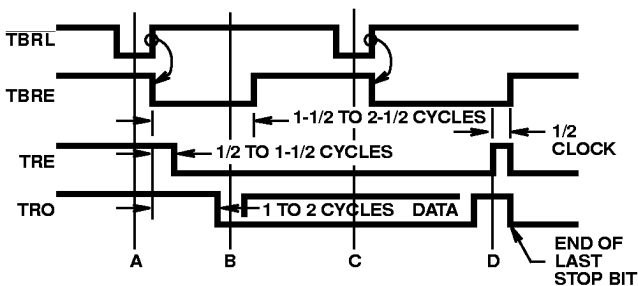

FIGURE 3. TRANSMITTER TIMING WAVEFORMS
Transmitter timing is shown in Figure 3. (A) Data is loaded into the transmitter buffer register from the inputs TBR1 through TBR8 by a logic low on the \overline{TBRL} input. Valid data must be present at least t_{DT} prior to, and t_{TD} following, the rising edge of \overline{TBRL} . If words less than 8-bits are used, only the least significant bits are used. The character is right justified into the least significant bit, TBR1. (B) The rising edge of \overline{TBRL} clears TBRE. 1/2 to 1 1/2 cycles later, depending on when the \overline{TBRL} pulse occurs with respect to TRC, data is transferred to the transmitter register and TRE is cleared. TBRE is set to a logic High one cycle after that.